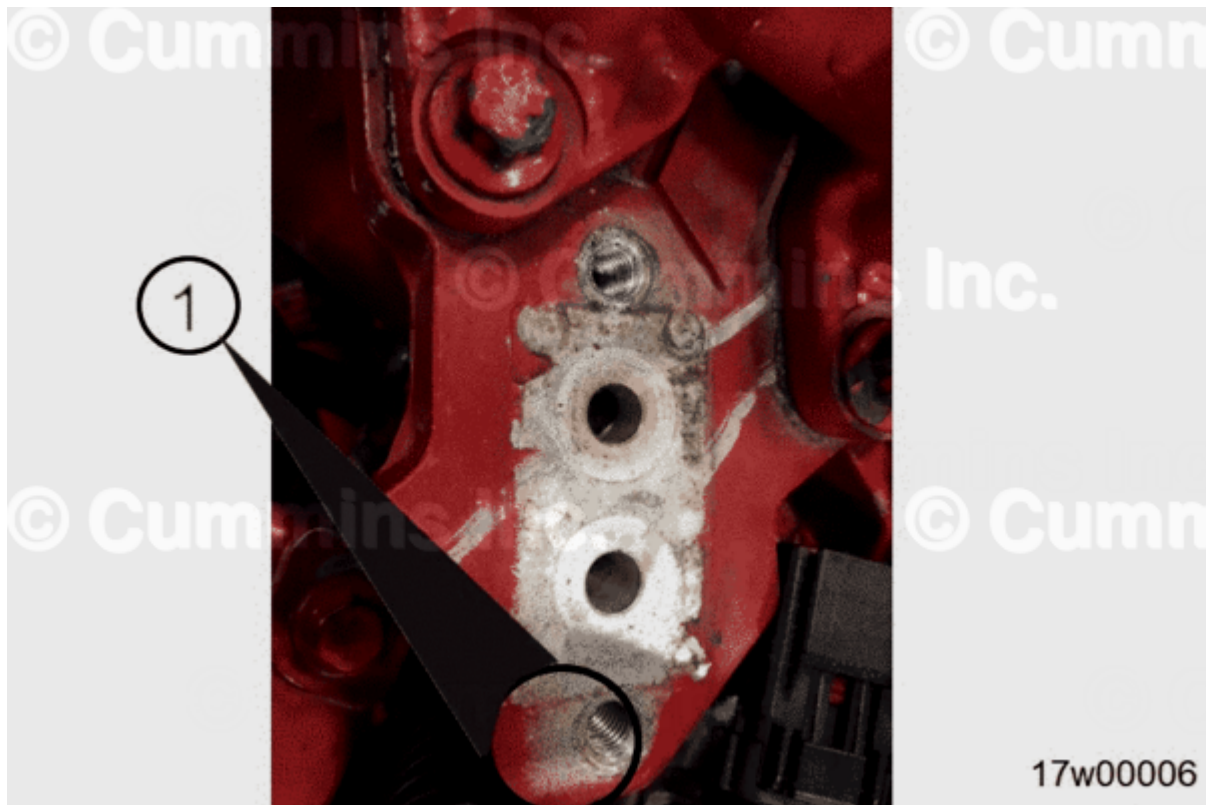

Figure 4, Differential Pressure Sensor Location Without Sensor Installed.
- Some engines are painted after assembly with differential pressure sensor installed. If any unpainted surface can be seen on engines after installation, this indicates the differential pressure sensor was installed incorrectly. An example can be seen in Figure 4 below.
- Verify no unpainted surfaces are visible at the location as shown in Figure 4 above.